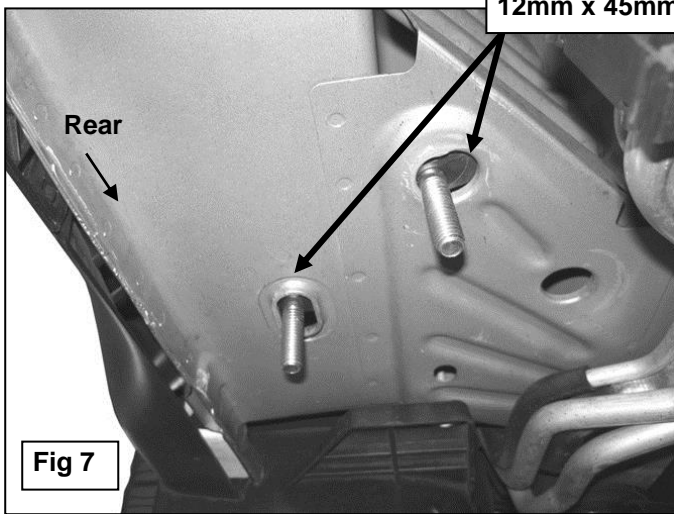

Fig 7
5. Move toward the rear of the vehicle and locate the round or oval hole centered in the bottom of the floor panel as described in **Step 2, (Figures 7 & 8)**.
- a. **07-09** vehicles are equipped with an oval hole in the center of the floor panel as described in **Step 2a**. Insert (1) 12mm x 45mm Bolt Plate into the oval hole in the center of the floor panel and turn 90-degees across the oval hole, (**Figure 7**).
6. Next, locate the large hole slightly in toward the center of the vehicle from the previously installed Bolt Plate. **NOTE:** Use the passenger side Rear Bracket to determine the correct mounting hole to use. Insert (1) 12mm x 45mm Bolt Plate into the factory hole, (**Figures 7 & 8**). **NOTE:** Do not center the Bolt Plate in the hole, the shorter end of the Bolt Plate should be pushed to one side of the factory hole in order to fully engage.